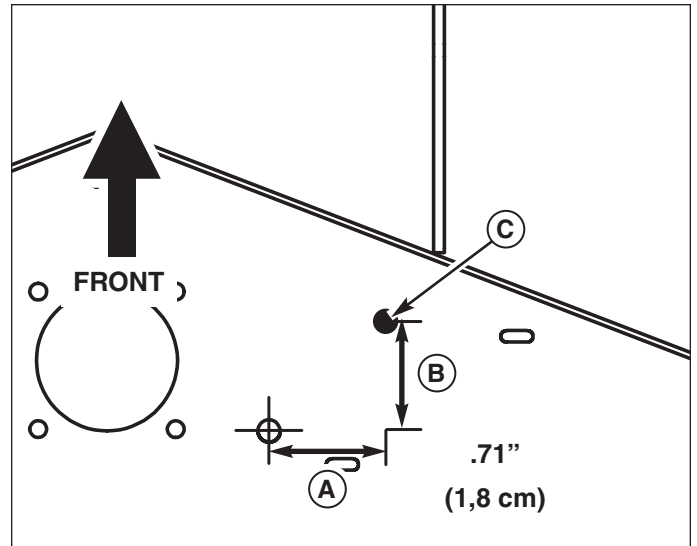

Figure 3. Drilling the New Hole for the Spring Anchor Bolt
7. Refer to Figure 3. From the center of the hole that the spring anchor bolt assembly was removed from measure .71" (1,8 cm) to the right. Mark this area.